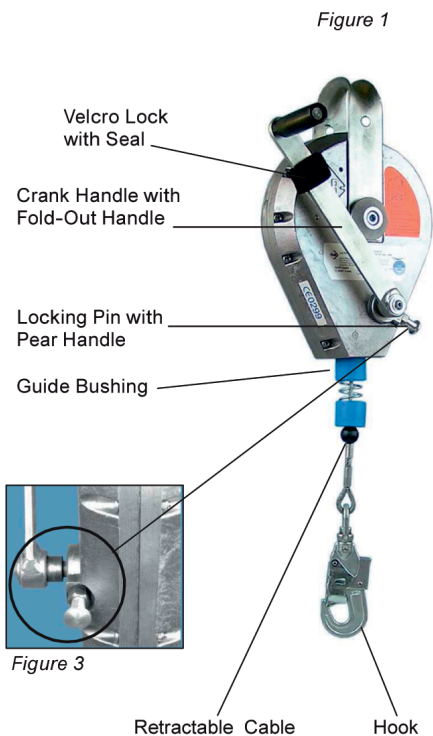

Figure 1
1. Open the sealed Velcro lock (see Figure 1).
2. Unfold the crank handle (see Figure 1).
Figures 1 and 3 show the PeakWorks Self-Retracting Device with crank position set to the "Self-Retracting Devices" function.